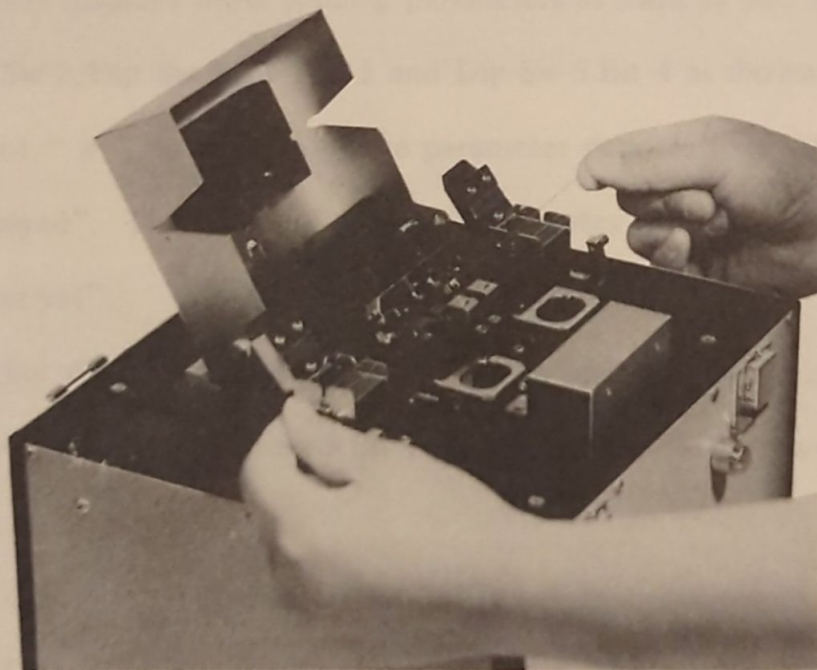

Fig. 26 Removing the Optical Fiber
- (4) Open the fiber chucks of the proof tester attachment ⑮. Then remove the optical fiber from the holder ⑩. (Refer to Fig. 26)